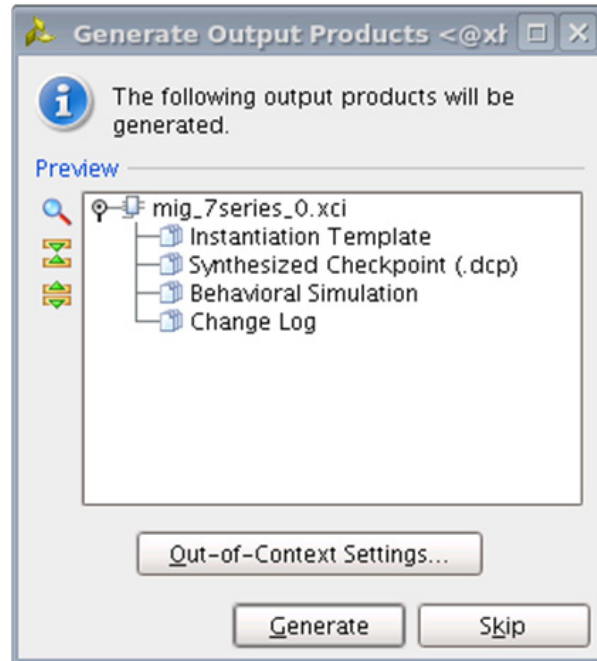

Figure 1-29: **Generate Output Products Window**
1. After clicking **Generate**, the **Generate Output Products** window appear. This window has the **Out-of-Context Settings** as shown in Figure 1-29.